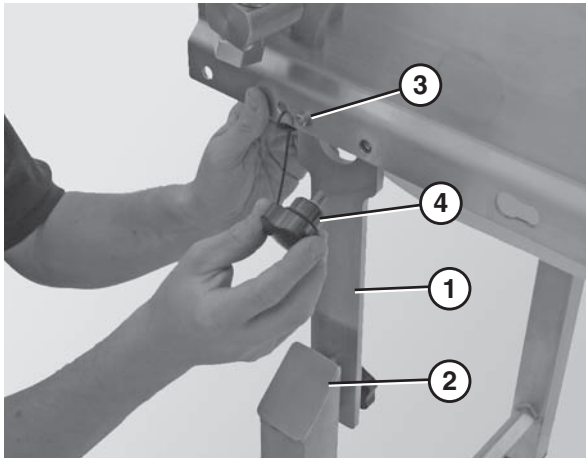

Figure 13
5. Rotate the bracket arm (Figure 13, item 1) so that the locking pin on the stand (Figure 13, item 2) and the locking pin on the frame (Figure 13, item 3) are positioned securely within the holes.
6. Secure the bracket arm to the stand by attaching the cutoff knob (Figure 13, item 4).